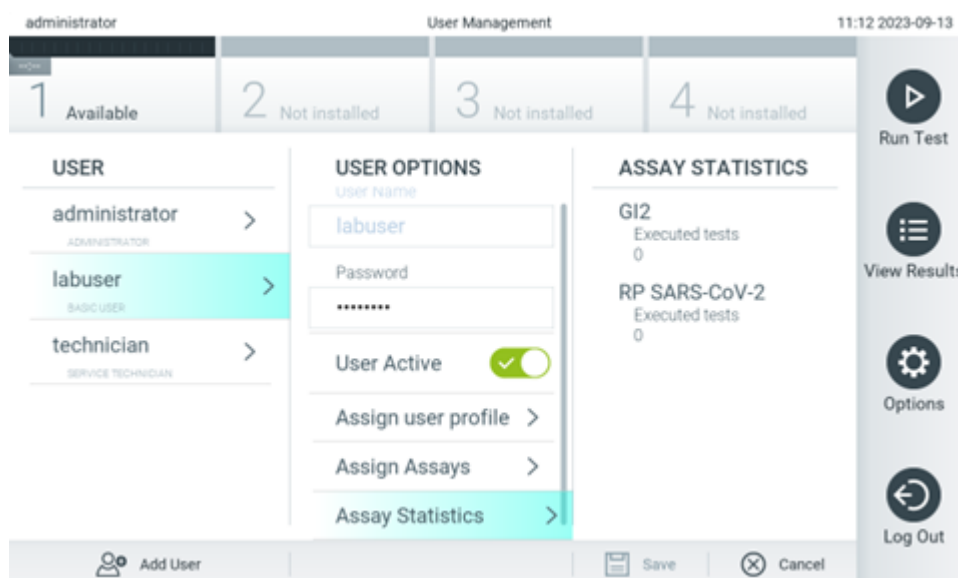

Figure 54. Viewing assay statistics.
- **Assay Statistics:** Displays the number of times an assay was run by the selected user (Figure 54).